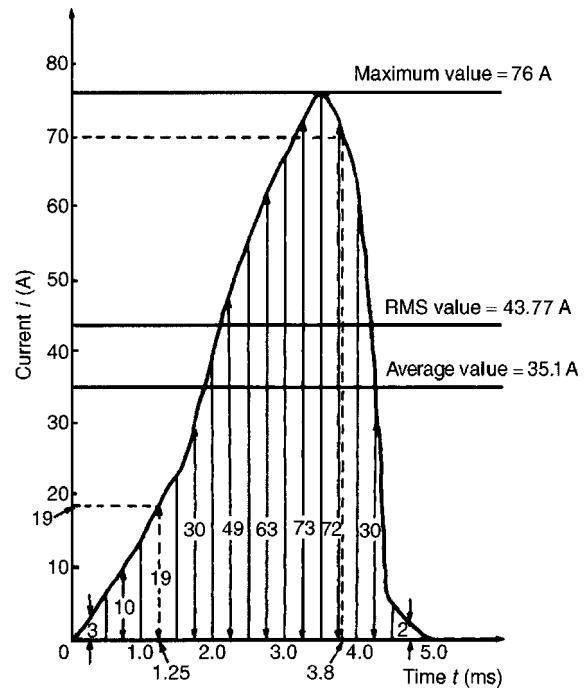

Figure 14.6
The half cycle of alternating current is shown plotted in Fig. 14.6
- (b) Instantaneous value of current after 1.25 ms is **19 A**, from Fig. 14.6. Instantaneous value of current after 3.8 ms is **70 A**, from Fig. 14.6